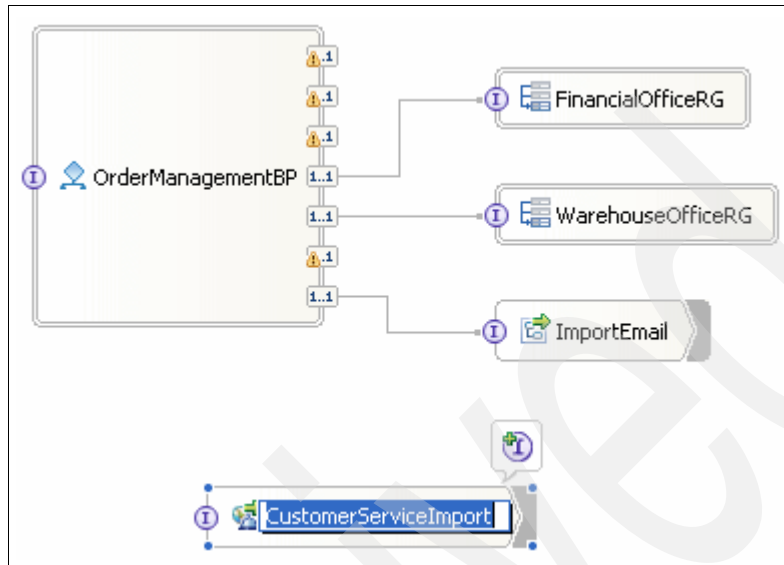

Figure 7-12 OrderManagement assembly diagram with customer import
4. Rename the import component CustomerServiceImport as shown in Figure 7-12.